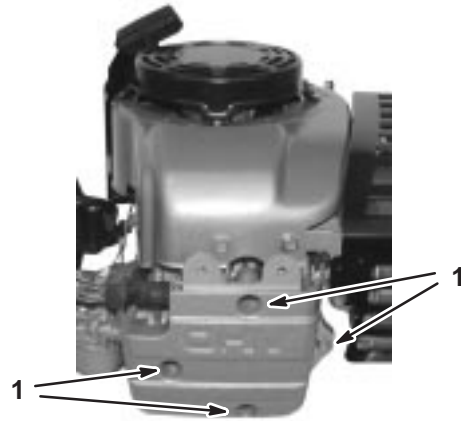

Fig. 50 – Removing Rocker Cover
2. Remove rocker cover and gasket(s), Fig. 50.